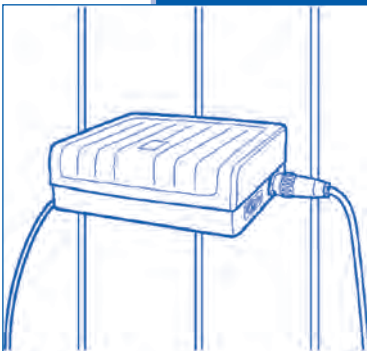

Figure 2
- Fix the power supply box to the wall (**Figure 2**).